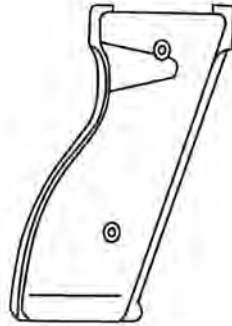

Fig. 13 – Handgrip
15. The handgrip (Fig. 13) serves as a hand rest in firing and it joins the stock to the receiver.